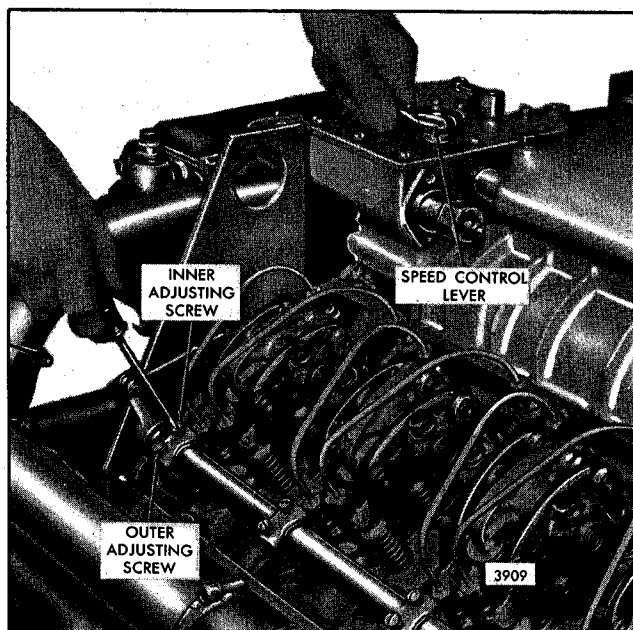

Fig. 3 - Positioning No. 1L Injector Rack Control Lever
6. Move the speed control lever to the maximum speed position; hold it in that position with light finger pressure. Turn the inner adjusting screw of the No. 1L injector rack control lever down (Fig. 3) until a slight movement of the control tube lever is observed or a step-up in effort to turn the screw driver is noted. This will place the No. 1L injector in the *full-fuel* position. Turn the outer adjusting screw down until it bottoms lightly on the injector control tube. Then, alternately tighten both the inner and outer adjusting screws. This should result in placing the governor linkage and control tube assembly in the same positions they will attain while the engine is running at full-load.